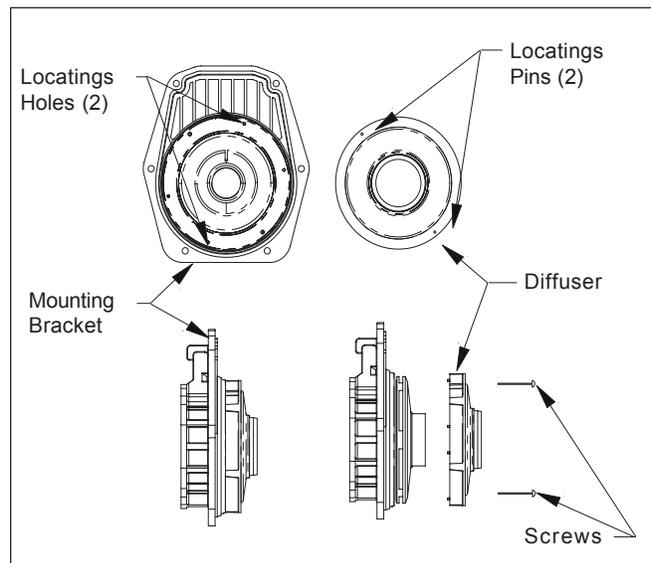
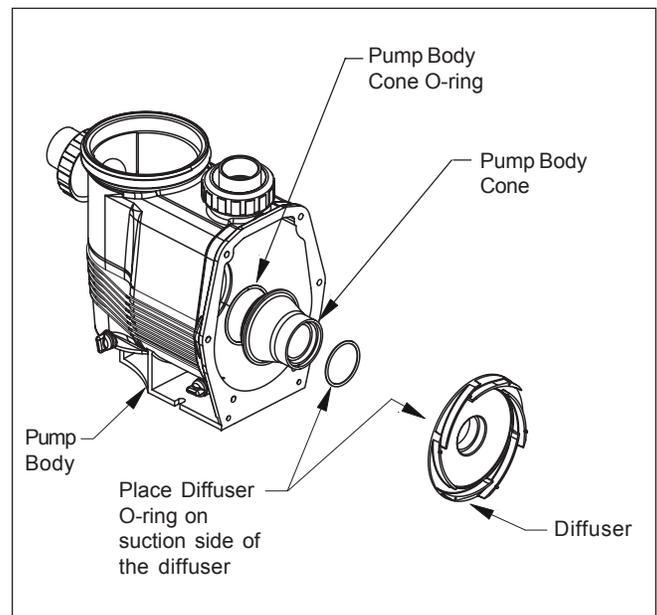

Figure 2. Removing the Diffuser
Figure 3. Diffuser O-ring
5. Using a No. 1 Phillips screwdriver, remove the two (2) screws holding the diffuser (the cover over the impeller) and remove the diffuser (See Fig. 2). Remove the diffuser o-ring. It may be stuck in the pump body cone (See Fig. 3).
3. Replace the diffuser on the mounting bracket assembly by snapping it into the screw holes. It will only fit one way (See Fig. 2).
5. There is an o-ring located between the diffuser and the pump body cone. Place the diffuser o-ring over the diffuser's suction side (See Fig. 3).
3. Remove the four (4) bolts holding the mounting bracket to the motor. Before removing the bracket, note the alignment of the mounting bracket to the motor (See Fig. 3).
5. Replace the four (4) bolts holding the mounting bracket to the motor.